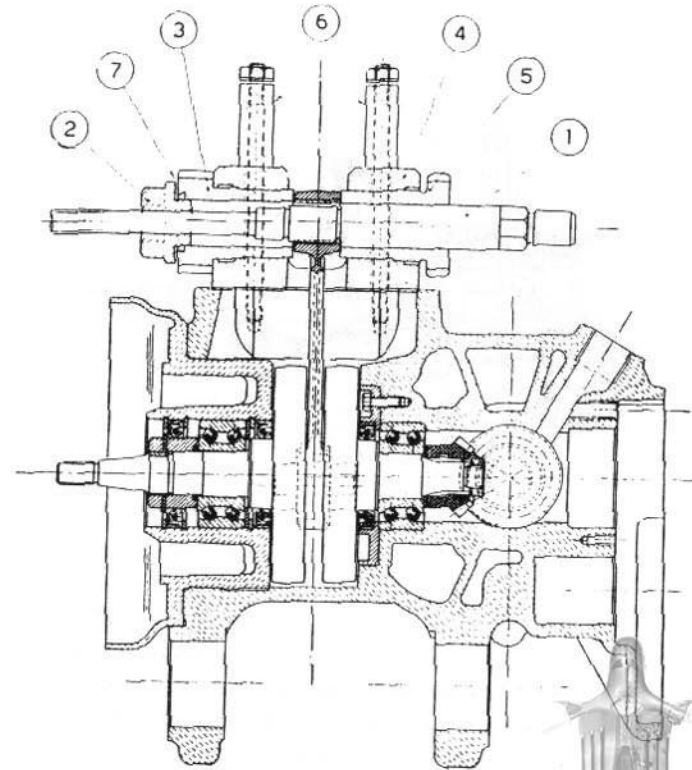

Fig. 39
- Place tool No. 54361 on crankcase as shown in figure 39, after having well cleaned the surface face; rotate crankshaft so that the small end bush centre coincides with that of the tool.
- Fit pin (1); screw in bush (3); fit washer (7) and nut (2).
- Screw bush (5) until it locks connecting rod.
- Tighten tool gently by means of distance pieces (6) and the four stud nuts.
- Screw nut (2) with 27 mm spanner until small end bush is completely extracted.